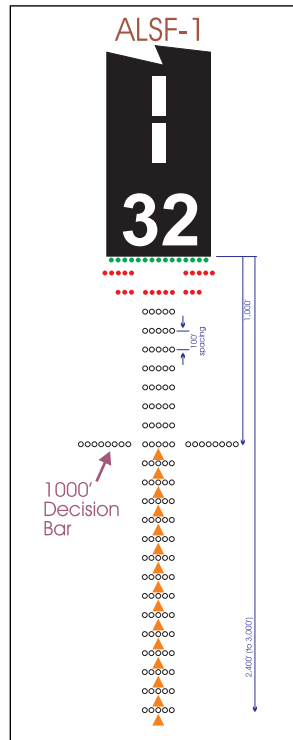

Figure 5. The 1,000 foot decision bar.
Standard entries should be made to the pattern for course reversal. When a procedure turn other than a holding pattern or teardrop course reversal is shown, you may fly any variation of the turn you want, as long as it's done in the maneuvering zone (Figure 5). Do not make the 45/180 reversal on the side opposite the maneuvering zone. You could easily run out of obstacle-protected airspace.
U.S. approach lighting systems have them. It serves several purposes. First, the decision bar (Figure 5) creates a reference to the horizon that's useful when making a visual transition from instruments. While the threshold lights